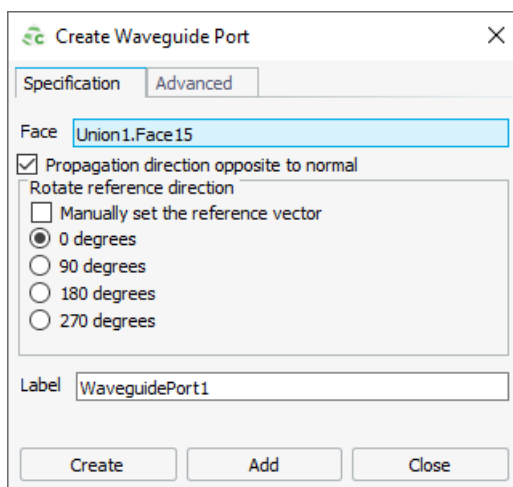

Figure 149: The **Create Waveguide Port** dialog.
- a) On the dialog, click on the **Face** user input field to make it active. An active field is highlighted in blue (see Figure 149).